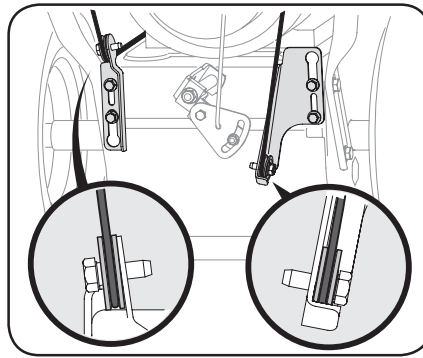

Figure 2-4
5. Observe lower rear area of equipment to be sure both cables are aligned and seated properly in roller guides. See Figure 2-4.